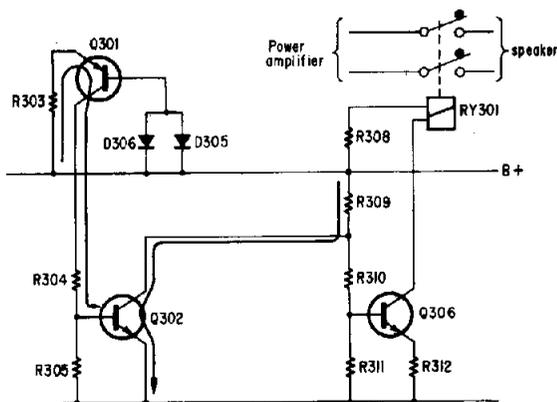
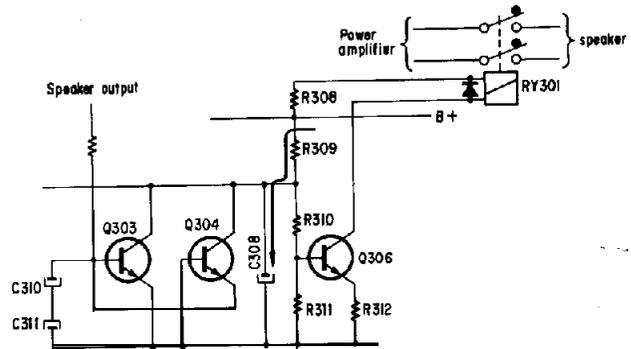

Fig. 1-1.
Fig. 1-2.
2. Speaker Protection Circuit (See Fig. 1-1 and Fig. 1-2)
- When the positive dc component presents at the speaker output terminal, C310 is charged up as shown in Fig. 1-2. Q303 turns on, Q306 turns off and the relay RY301 is not activated (4304 remains in off condition). Also, when the negative dc component presents, C311 is charged up. This turns 9304 on, Q306 off and RY301 is not activated (9303 remains in off condition).